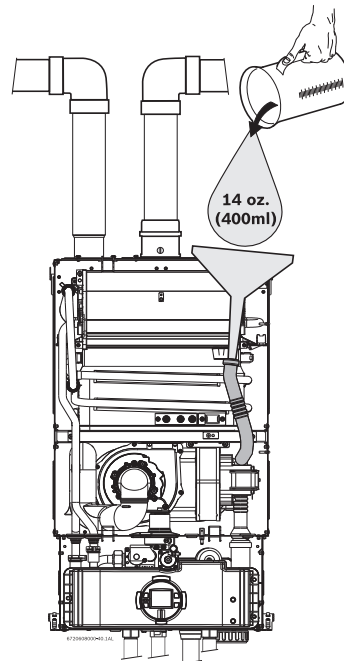

Fig. 37 Filling the condensate trap after installation
- Fill the condensate trap by pouring approx.14 oz. (400ml) of water into the top of the drain tube. To avoid damage to the appliance use a funnel in this operation, see Fig. 37, page 27.